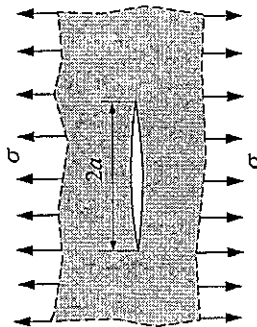

Figure 3
- 2(a) A Centre-Crack in an infinite width plate has a tensile stress normal to the crack indicated by σ , as shown in Figure 3. The crack length is $2a$, but the half crack length, a , will be used for Fracture and Fatigue calculations.